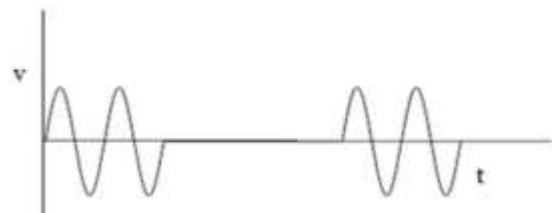

**Fig. 2 Very short interruptions**
**Consequences:** False tripping of protection [5] devices, loss of information results in malfunction of data processing equipment. Sensitive equipment stops working. Fig.2- shows very short interruptions